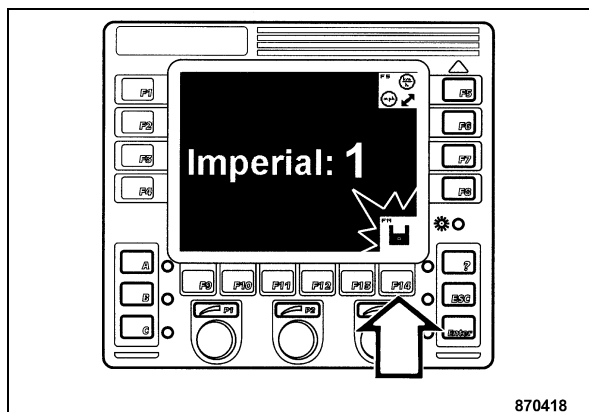

Fig. 80
- Press "F14" (Fig. 80) to save the selection. The symbol "Save" lights green for a moment to confirm.